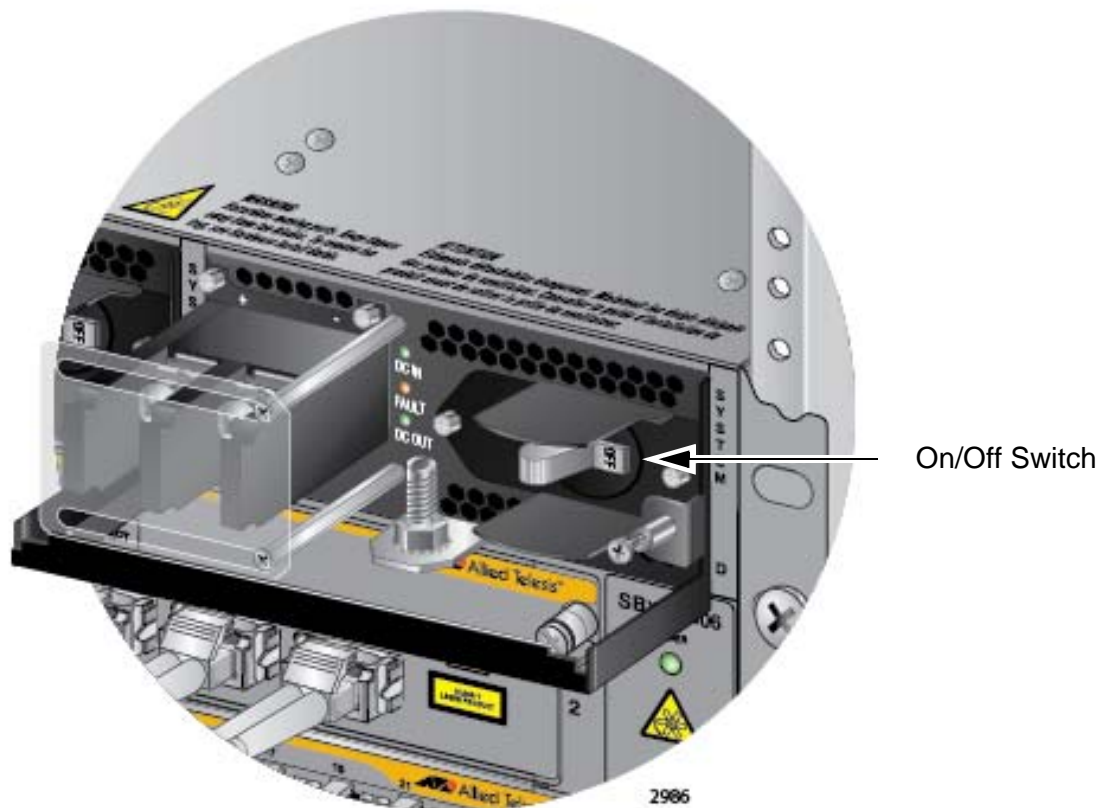

Figure 143. On/Off Switch on the AT-SBxPWRSYS1 DC Power Supply
3. Verify that the On/Off switch on the AT-SBxPWRSYS1 DC Power Supply is in the Off position. Refer to Figure 143 on page 220.
2. Verify that the On/Off switch on the AT-SBxPWRSYS1 DC Power Supply is in the Off position. Refer to Figure 143 on page 220.
2. Turn the On/Off switch on the power supply to the On position. See Figure 143 on page 220.